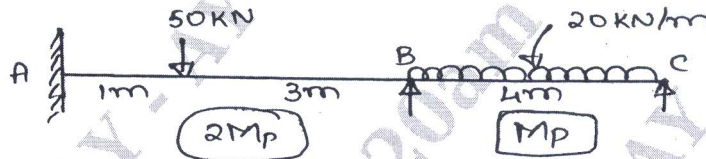

Fig.Q.2(b)
- b. Compute the plastic moment capacity for a continuous beam shown in the Fig.Q.2(b) by kinematic method, take load factor as 1.5. (10 Marks)